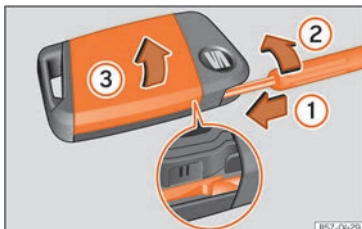

Fig. 49 Vehicle key: opening the battery compartment.
- Insert a flat blade screwdriver into the vehicle key, through the outer guide of the emergency key, approx. 1 cm in the direction of the arrow >>> Fig. 49 ①.
- Turn the screwdriver clockwise until the cover opens >>> Fig. 49 ②.
- Open the cover in the direction indicated by the arrow >>> Fig. 49 ③ and remove it >>> ①.